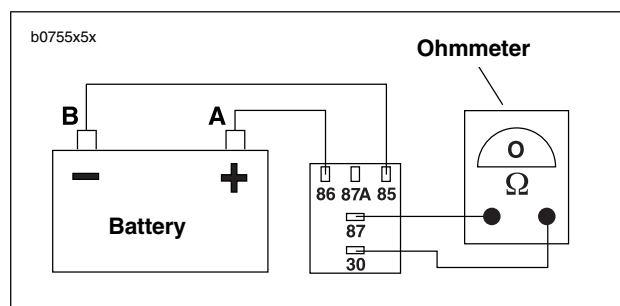

Figure 7-16. Starter Relay Test
3. See Figure 7-16. Obtain a 12 volt battery and a continuity tester or ohmmeter.